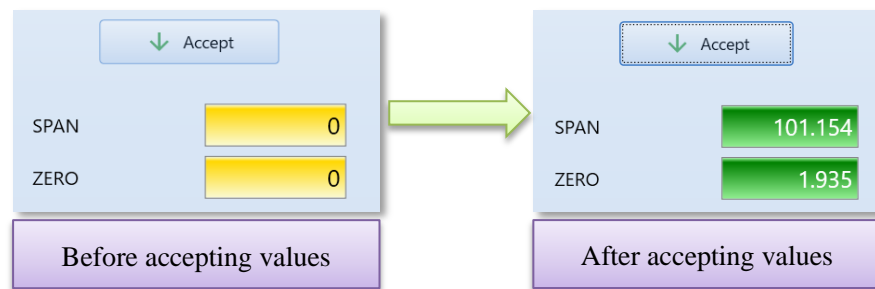

Figure 6.43 Acquire values to be used for calibration
- (3) Choose “SPAN” as “Calibration item” when conducting SPAN calibration. Make sure the values are stabilized in plot, and then click on [Accept] button to accept. (Figure 6.43)
- (4) Choose “ZERO” as “Calibration item” when conducting ZERO calibration. Make sure the values are stabilized in plot, and then click on [Accept] button to accept. (Figure 6.43)